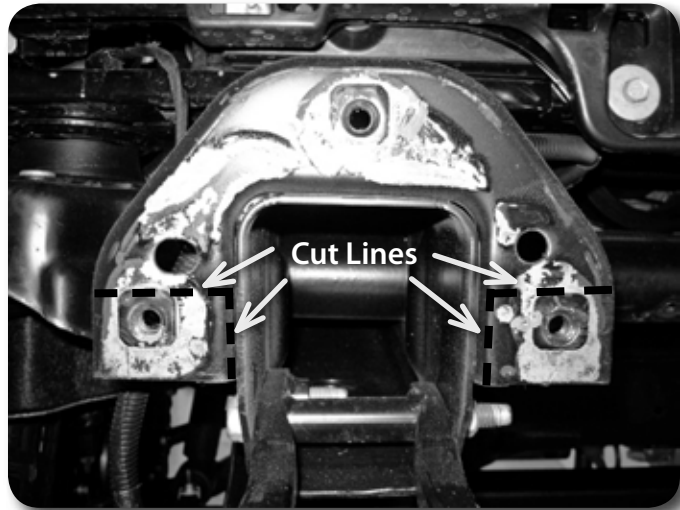

Figure 13
24. It is necessary to cut the front bumper frame mounts to provide clearance for the bumper in its raised position. Make a cut line even with the top of the lower weld nuts as shown in Figure 13. Using a suitable cut off tool, cut at the mark and down flush with the side of the frame.